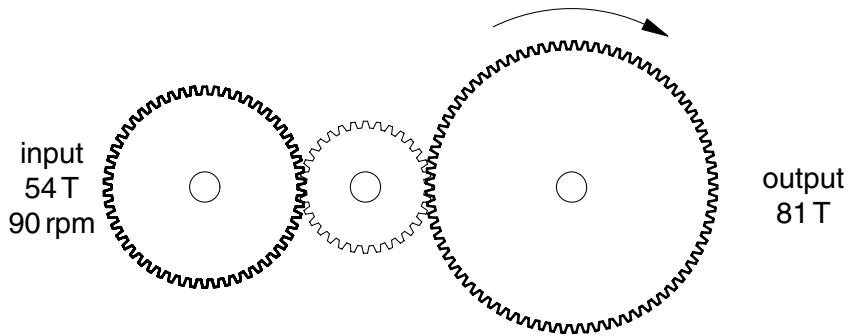

Fig. 2
- 5 Fig. 2 shows a simple gear train.
- (a) Draw on Fig. 2 to show the direction of rotation of the input gear. [1]